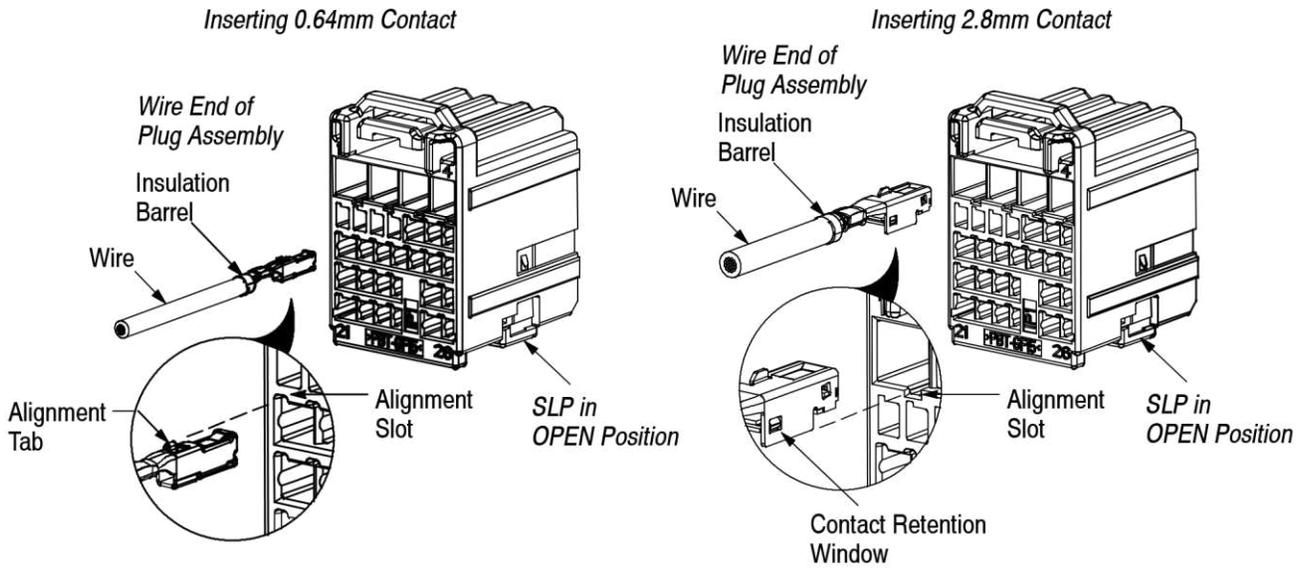

Figure 2
- Grasp the wire of the terminated contact approximately 19 mm behind the contact insulation barrel. Refer to Figure 2 and align the contact with the desired contact cavity at the wire end of the plug assembly, orienting the contact so that: